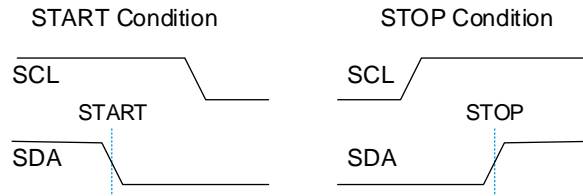

Figure 14. START and STOP Condition Waveform
The sensor transmission is initiated when the master sends a 0 START bit (S). The transmission is terminated when the master sends a 1 STOP bit (P). These bits are transmitted only while the SCL line is HIGH (see Figure 14 for waveforms).